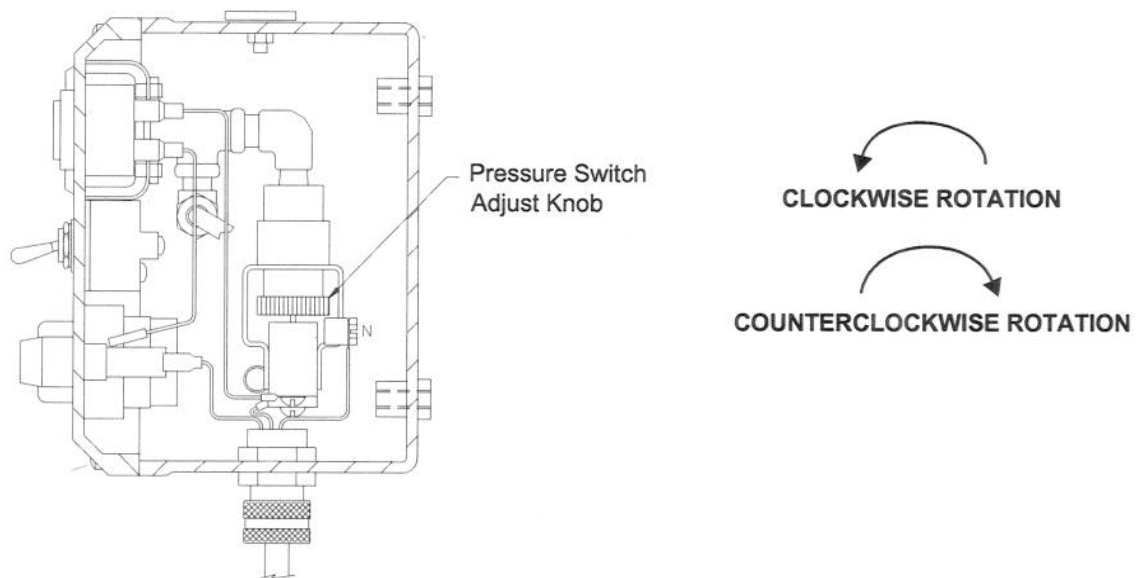

Figure 3. Alarm Assembly Interior
7. On the oxygen source, slowly apply 50 psig to the alarm (see Figure 3.).